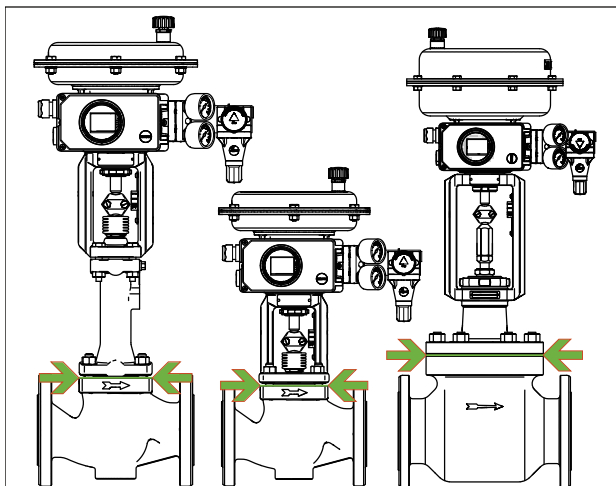

Fig. 9: Limit of insulation for control valves (example shown)
- ⇒ Only insulate control valves up to the bonnet flange of the valve body (see Fig. 9). This also applies to versions with bellows seal or insulating section at medium temperatures below 0 °C or above 220 °C. If the insulating section is insulated, it will not function properly.